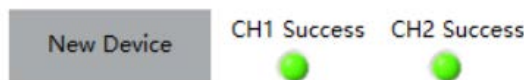

Figure 5.6.9 Restore factory settings
- Click the "Restore Factory Settings" button to erase the original angle programming data. (If the chip is being programmed for the first time, this step can be skipped) After erasing is completed, the "Factory Reset" indicator light will turn green (Figure 5.6.9)